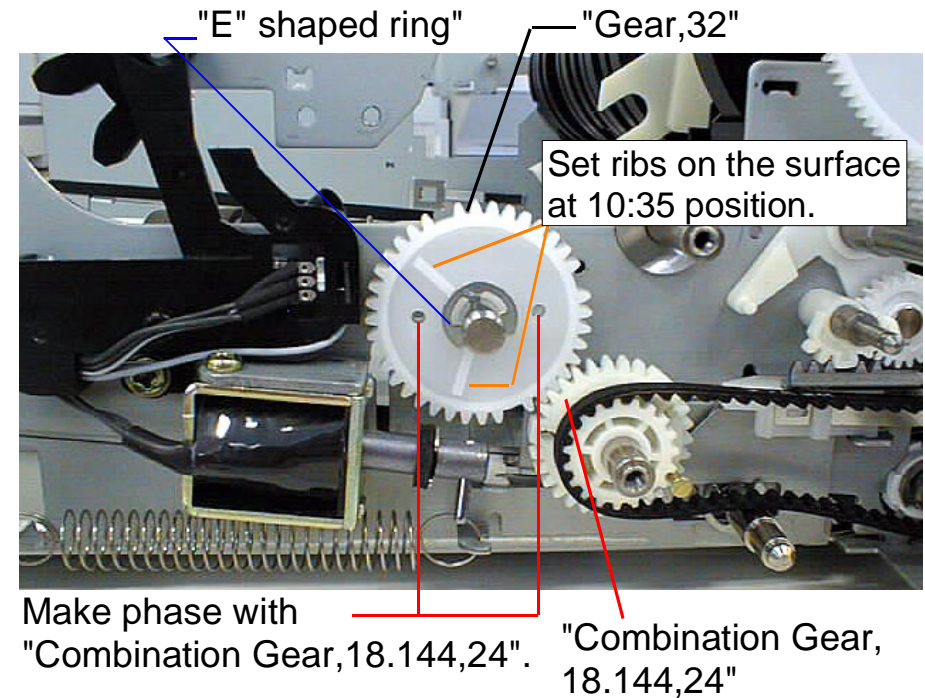

Figure 4-98. Setting "Gear,32"
12. Set the rib of "Gear,32" to the axis so that the rib faces outside. At this time, 2 holes on the "Gear,32" should match with 2 holes on the "Frame, Assembly, Middle, Right". (Refer to Figure4-98)
13. Attach "E" shaped ring. (Refer to Figure4-98)
In case of removing "Gear,32", since there is alignment between "Gear,32" and "Combination Gear,18.44,24", refer to Figure4-98 and make correct alignment(engagement). Also, when setting "Gear,32", set it so that its ribs on the gear surface indicate 10:35, like a clock. (Refer to Figure4-98)